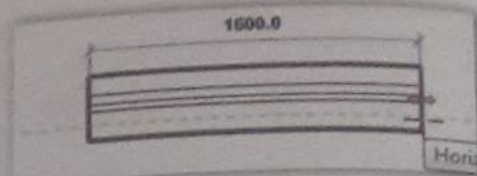

Figure 34: Core Centerline
- Core Centerline:** The geometric center of the core components. (Figure 34)